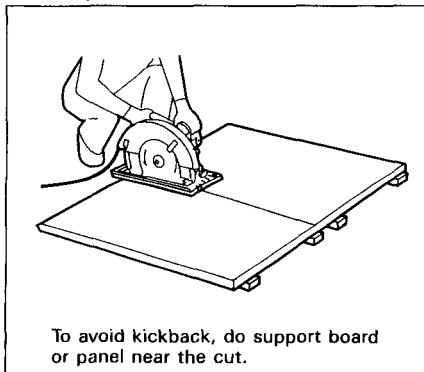

Fig. 1
15. **Support large panels to minimize the risk of blade pinching and KICKBACK.** Large panels tend to sag under their own weight. Supports must be placed under the panel on both sides, near the line of cut and near the edge of the panel as shown in Fig. 1.